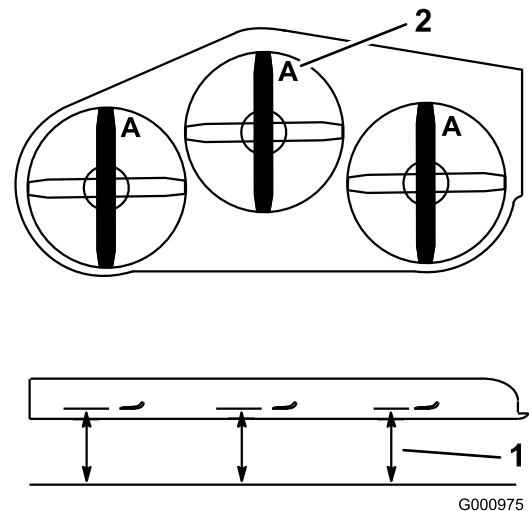

Figure 80
2. Measure from a level surface to the cutting edge, position **A**, of the blades (Figure 80).